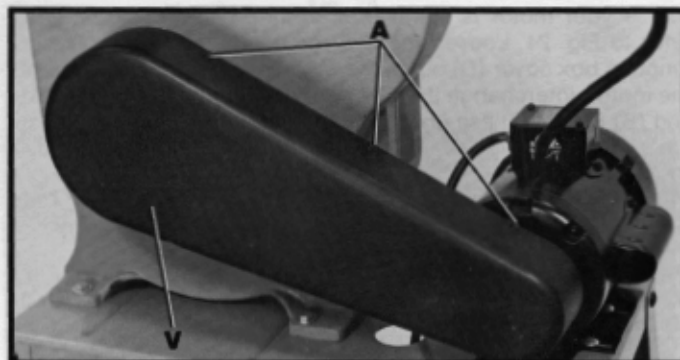

Fig. 21
8. Assemble outer belt and pulley guard (V) to the inside belt and pulley guard and tighten the six screws, three of which are shown at (A) Fig. 21.